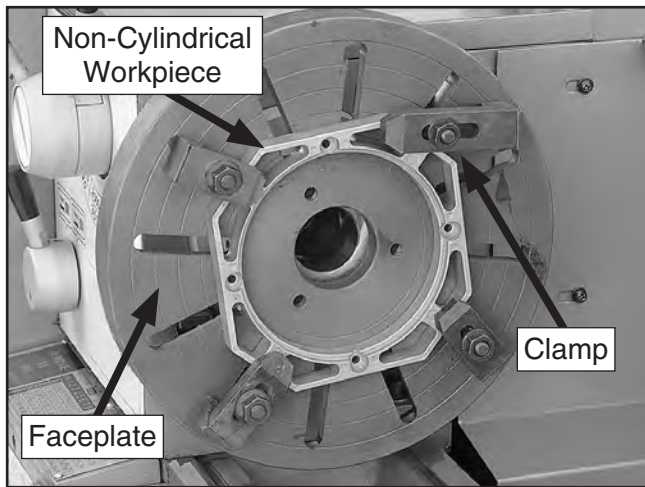

Figure 25. Generic picture of workpiece clamped in a faceplate.
3. With help from another person or a holding device to support the workpiece, position it onto the faceplate and clamp it in place with a minimum of three independent clamping devices (see **Figure 25** for an example).